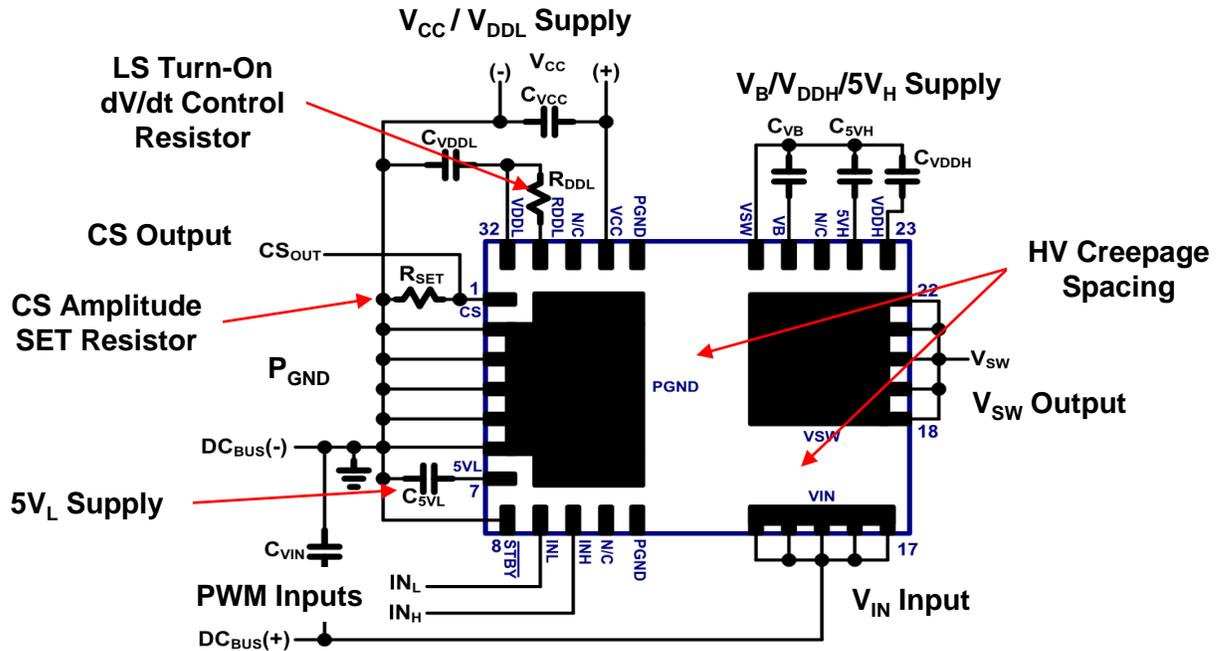
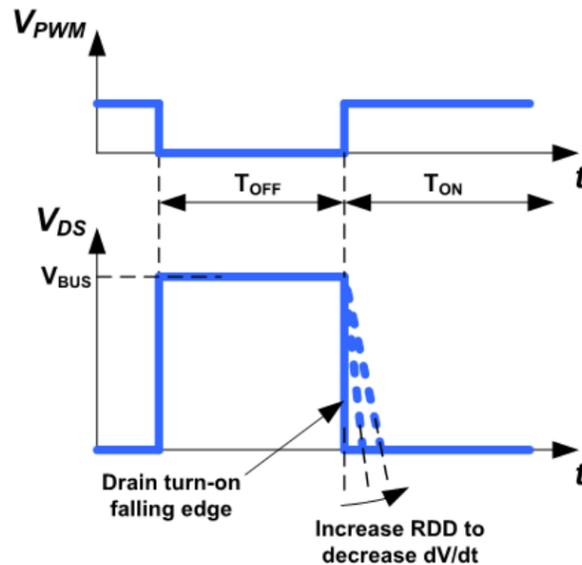
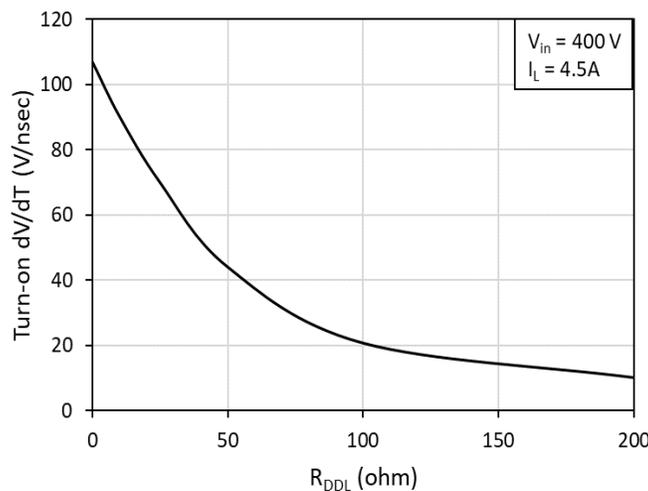

Fig 3. IC connection diagram
Fig 12. Turn-on dV/dt slew rate control simplified timing diagram
Fig 13. Low-side V_{DS} turn-on slew rate (dV/dt) vs R_{DDL} curve
The typical connection diagram for this GaN Half-Bridge IC is shown in Figure 3. The IC pins include the drain of the high-side GaN power FET (V_{IN}), the half-bridge mid-point switched node (V_{SW}), the source of the low-side GaN power FET and IC GND (P_{GND}), low-side IC supply (V_{CC}), low-side gate drive supply (V_{DDL}), low-side turn-on dV/dt control (R_{DDL}), low-side 5V supply ($5V_L$), low-side referenced PWM inputs (IN_L , IN_H), low-side current sensing output (CS), auto-standby enable input (\overline{STBY}), high-side supply (V_B), high-side gate drive supply (V_{DDH}), and high-side 5V supply ($5V_H$). The external low-side components around the IC include V_{CC} supply capacitor (C_{VCC}) connected between V_{CC} pin and P_{GND} , V_{DDL} supply capacitor (C_{VDDL}) connected between V_{DDL} pin and P_{GND} , turn-on dV/dt set resistor (R_{DDL}) connected between V_{DDL} pin and R_{DDL} pin, current sense amplitude set resistor (R_{SET}) connected between CS pin and P_{GND} , 5V supply capacitor (C_{5VL}) connected between $5V_L$ pin and P_{GND} , and auto-standby enable pin (\overline{STBY}) connected to P_{GND} to enable auto-standby mode or connected to $5V_L$ to disable auto-standby mode. The external high-side components around the IC include V_B supply capacitor (C_{VB}) connected between V_B pin and V_{SW} , V_{DDH} supply capacitor (C_{VDDH}) connected between V_{DDH} pin and V_{SW} , and 5V supply capacitor (C_{5VH}) connected between $5V_H$ pin and V_{SW} . The high side V_B , $5V_H$ and V_{DDH} bypass capacitors must be chosen carefully to accommodate various system considerations such as high side wake up time, high side hold up time and standby power.
During first start-up pulses or during hard-switching conditions, it is desirable to limit the slew rate (dV/dt) of the drain of the low-side GaN power FET during turn-on. This is necessary to reduce EMI or reduce circuit switching noise. To program the turn-on dV/dt rate of the low-side GaN power FET, a resistor (R_{DDL}) is placed between the V_{DDL} pin 32 and the R_{DDL} pin 31 (see Fig. 3). This resistor (R_{DDL}) sets the turn-on current of the internal gate driver and therefore sets the turn-on falling edge dV/dt rate of the drain of the low-side GaN power FET (Fig. 12). The actual low-side V_{DS} turn-on dV/dt rates versus different R_{DDL} resistor values are also shown (Fig. 13).